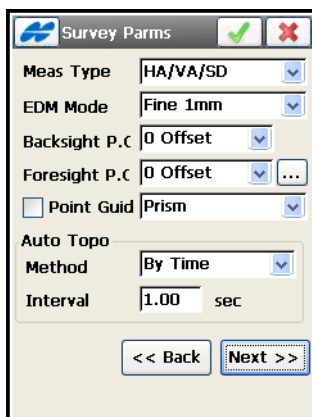

Figure 3-71. Survey Parameters – Second Screen
- **Next** – opens the second (additional) *Survey Parameters* screen (Figure 3-71 on page 3-73).
The second (additional) *Survey Parameters* screen contains the following survey parameters (Figure 3-71 on page 3-73).